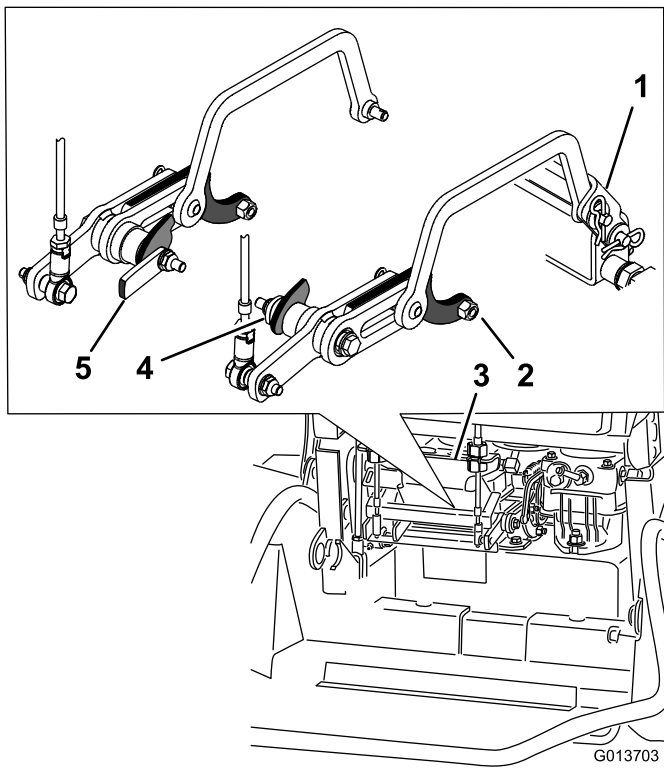

Figure 6
3. Install the fork to the rear bracket with a new bolt (1/4 x 2-3/4 inch), washer, shoulder hub and a flange nut (1/4 inch) (Figure 5 and Figure 6). Do not tighten at this time.
5. From behind the engine, install the speed control linkage to the front bracket with a flat washer and a hairpin cotter pin (Figure 5 and Figure 6).
Note: Ensure the ball joints are installed on the inside of the forks (Figure 6).